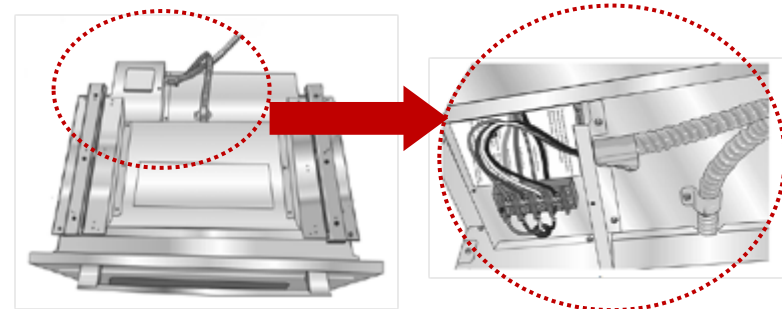

Figure 7 Top view of wall oven and microwave conduit/feeder wire connection in junction box. (HBL8742UCC and HBL8752UCC)
6. Disconnect the feeder wires from the terminal block (see *Figure 7*): only necessary if a work table is not nearby, and the 5' length of conduit/wire will not be sufficient.